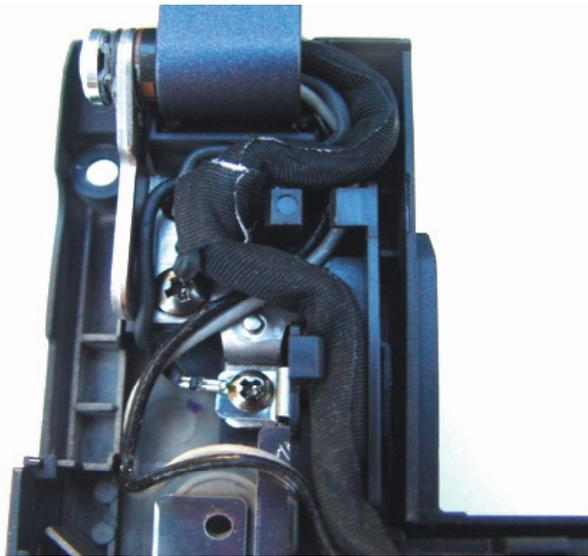

FIGURE 2-11 - PROPER DRESSING OF LAN AND LCD CABLES
Step 3: Undress the cables from the motherboard and fan. Note the slots in the lower cabinet and markings on the motherboard indicating the proper routing of the cable when it is re-installed later. This is important to minimize interference. Also note the positioning of the cables inside the hinge assembly of the LCD panel as illustrated in Figure 2-11. This is important to prevent pinching the cables when re-assembling the unit.